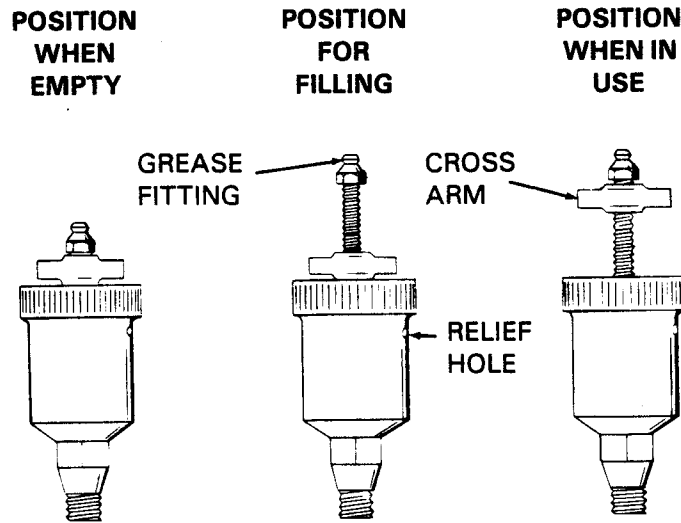

Figure 3. Automatic Lubricating Grease Cup
Before removing the seal assembly, turn the cross arm on the seal grease cup (23) clockwise until it rests against the cover (see figure 3). This will prevent the grease in the cup from escaping after the seal is removed.
Before starting the pump, fill the grease cup through the grease fitting with a good grade of No. 2 pressure gun grease until grease escapes from the relief hole. Turn the grease cup arm counterclockwise until it is at the top of the stem; this will release the spring to apply grease to the seal (see figure 3).